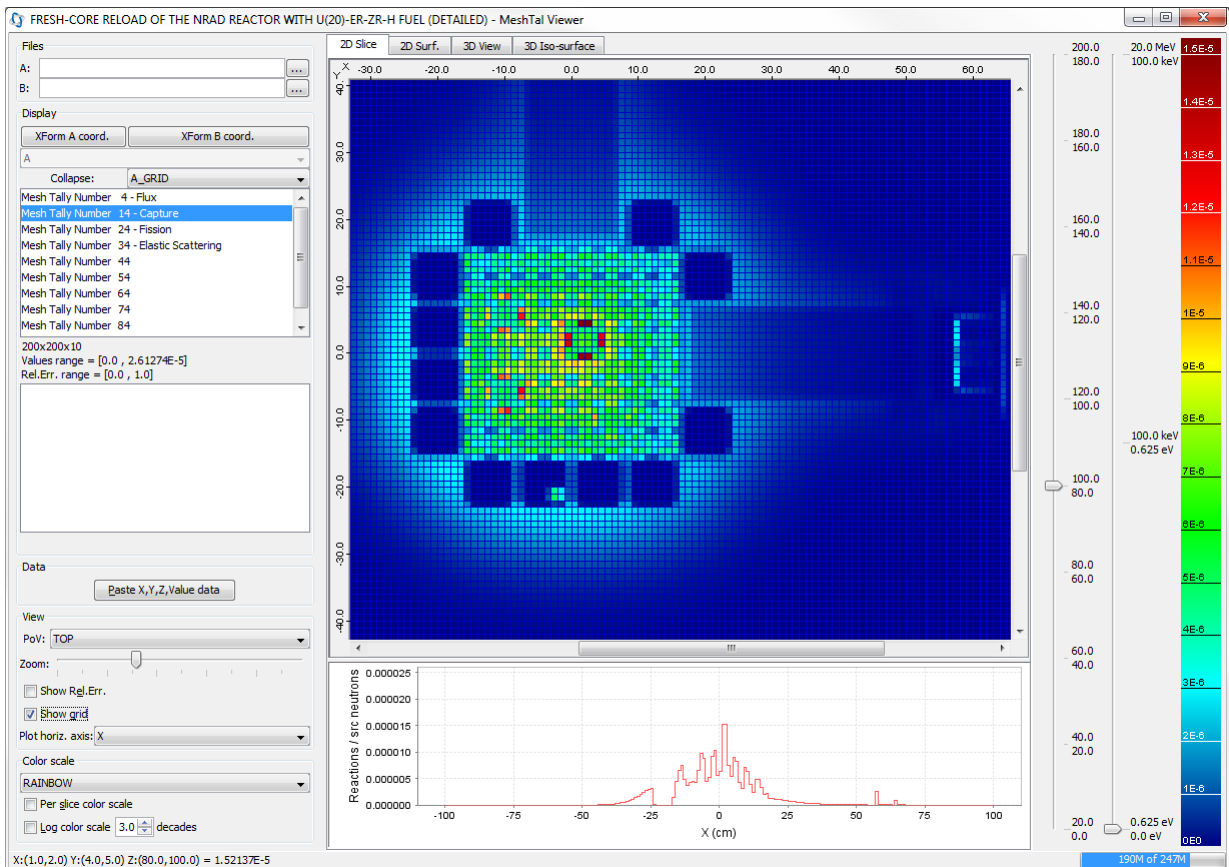

Figure 11: 2D Slice, NRAD thermal captures. Bottom plot displays capture profile along X-axis at the point the cursor is located.
- 2D Slice, Shown in Figure 11,